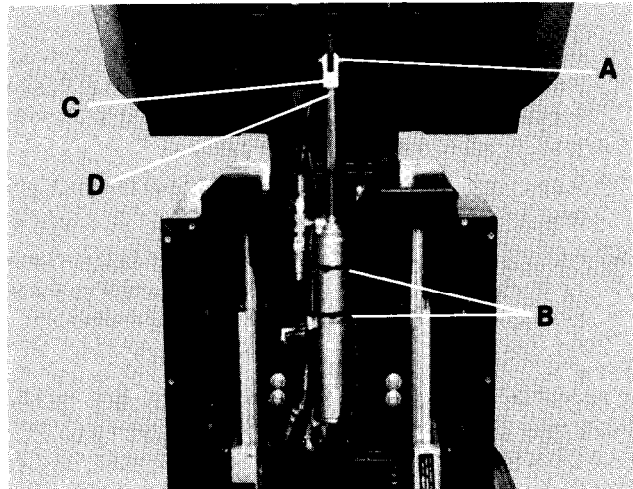

Fig. 27
DANGER: WHEN CHANGING A CYLINDER, NOTE HOW THE WIRES, HOSES, HOSE FITTINGS, AND NYLON TIES ARE POSITIONED SO THAT THEY MAY BE REPLACED EXACTLY THE SAME WAY OR DAMAGE TO THE WIRES AND HOSES MAY OCCUR RESULTING IN ELECTRICAL SHOCK OR EQUIPMENT DAMAGE. See Fig. 27.
- 2) With an assistant supporting the table top, remove the "E" ring and clevis pin, Item A, Fig. 27.
- 3) Remove the (2) large nylon ties, Item B, Fig. 27, from the cylinder.
- 4) While supporting the defective cylinder, remove (4) hose fittings from the cylinder using 9/16" and 7/16" wrenches. Remove the "E" ring and clevis pin from valve end of cylinder to remove from the table. Remove fittings from cylinder ports and install in new cylinder making sure safety cable is reinstalled.
- 7) Install nylon ties, Item B, Fig. 27 on the cylinder.
- 12) Position the table top and tilt cylinder as shown in Fig. 27 and install clevis pin and "E" ring, Item A, Fig. 27.
- 14) Position the table as shown in Fig. 26. The table top should be level. If the top is not level, the clevis, Item C, Fig. 27, must be adjusted in or out accordingly. To adjust the clevis, turn the cylinder rod using a 3/8" open end wrench on the wrenching flats, Item D, Fig. 27. The rod will turn easiest when it is extended about half of its total extension.